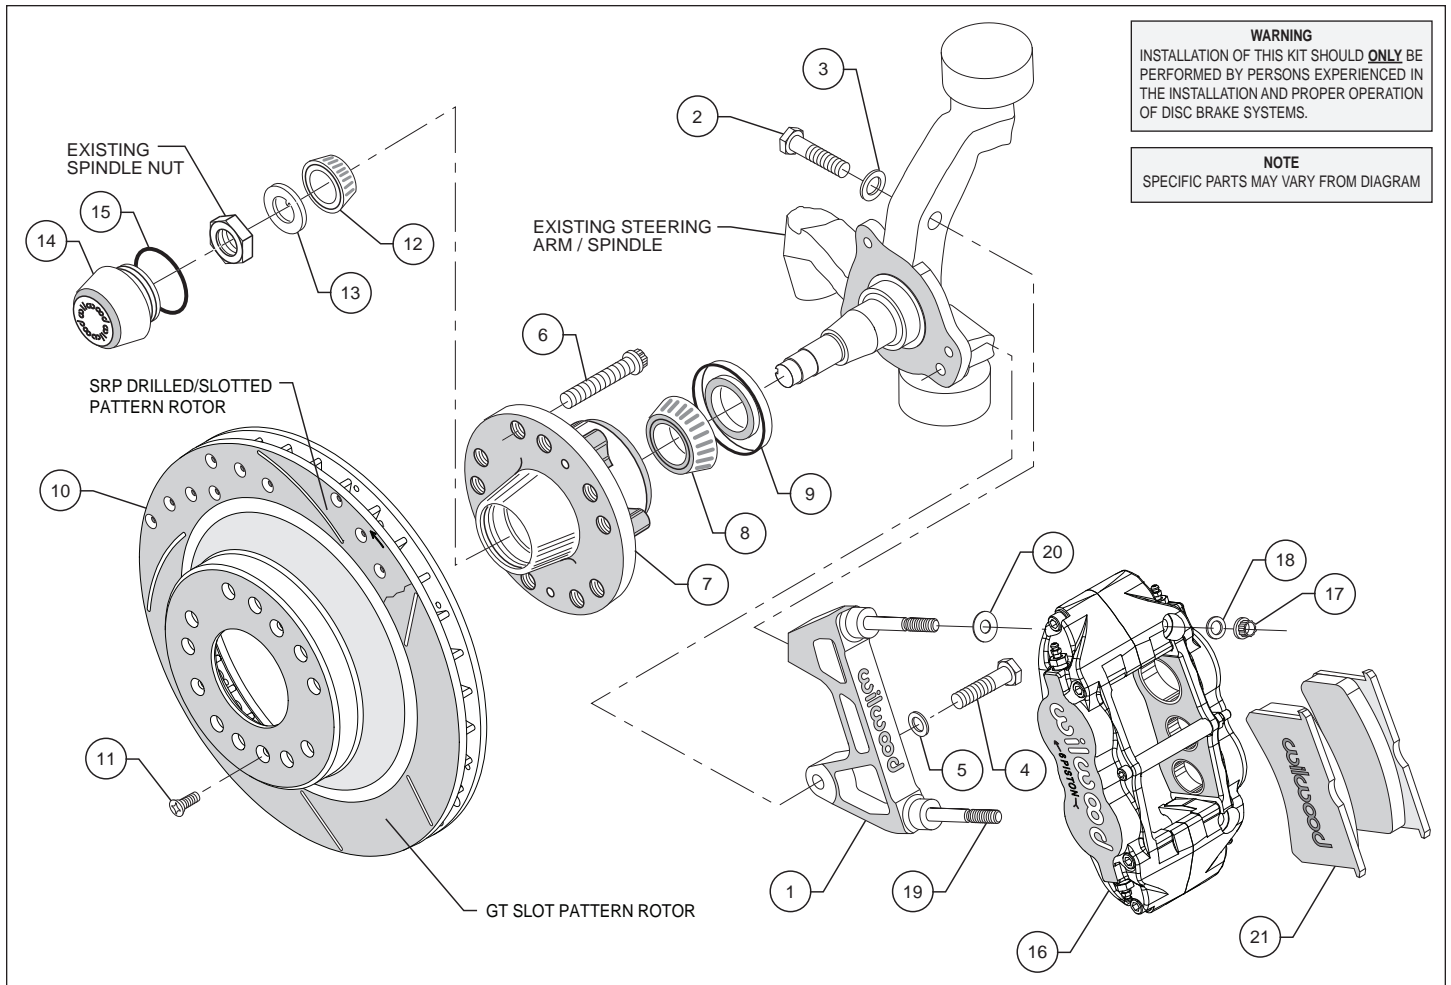

Figure 1. Typical Installation Configuration
**Assembly Instructions** (numbers in parenthesis refer to the parts list on the preceding page, and Figure 1):
- The caliper mount bracket (1) should initially be installed with clean, dry threads on the mounting bolts. Orient the bracket as shown in Figure 1, and install using bolts (2/4) and washers (3/5). Temporarily tighten the mounting bolts. **NOTE:** The bracket must fit squarely against the mount bosses on the upright. Inspect for interference from casting irregularities, machining ridges, burrs, etc. After the bracket fitment has been checked, remove the bracket bolts one at a time and apply red *Loctite*® 271 to the threads. Torque bolt (2) to 65 ft-lbs., and bolt (4) to 50 ft-lbs.
- Install wheel studs (6) into the hub (7), Photo 1. Torque to 77 ft-lb. **NOTE:** There are two five lug patterns in the hub (5 x 4.50 and 5 x 4.75). Ensure the correct hub stud pattern is being used to fit the wheel application.
- Pack the large inner bearing cone (8) with high temperature disc brake bearing grease (available from your local auto parts store) and install into the backside of the hub (7), Photo 2.
- Install the grease seal (9) by pressing into the backside of the hub (7), flush with the end of the hub, Photo 2.
- Pack the small outer bearing cone (12) with high temperature disc brake bearing grease and install into hub (7). Slide the hub assembly onto the spindle. Secure using spindle washer (13) and OEM spindle nut, Photo 3. Adjust bearings per OEM specifications. Install saved OEM nut lock (if any) and a new cotter pin (not included).
- Screw dust cap (14) into hub (7), Photo 4. Friction created by the o-ring (15) on the dust cap keeps it from unscrewing. **NOTE:** The O.D. of the existing OEM spindle washer may be larger than the I.D. of the dust cap not allowing it to seat against the hub face. Therefore, use the spindle washer (13) supplied with the kit instead of the OEM washer.
- Slide the hat/rotor (10) onto the hub (7) taking care to align the small countersunk holes in the hat with the small threaded holes in the hub. **NOTE:** The hat must fit flush against the hub face or excessive rotor run out may result. Install three flat head screws (11) through the small holes in the hat (10), Photo 4, and torque to 85 in-lb.
- NOTE:** This kit contains distinct right and left hand calipers that must be mounted in a specific direction, as described below. Lubricate the caliper mounting studs (19) with lightweight oil. Initially place one .035" thick shim (20) on each stud between the caliper and the bracket, as shown in Figure 1 and Photo 5. Mount the caliper (16) onto the bracket (1) using lock nuts (17) and washers (18), Figure 1. Ensure that the caliper is mounted so the largest pistons are at the rotor exit end of the caliper, in relation to the direction of rotor rotation. Temporarily tighten the lock nuts.